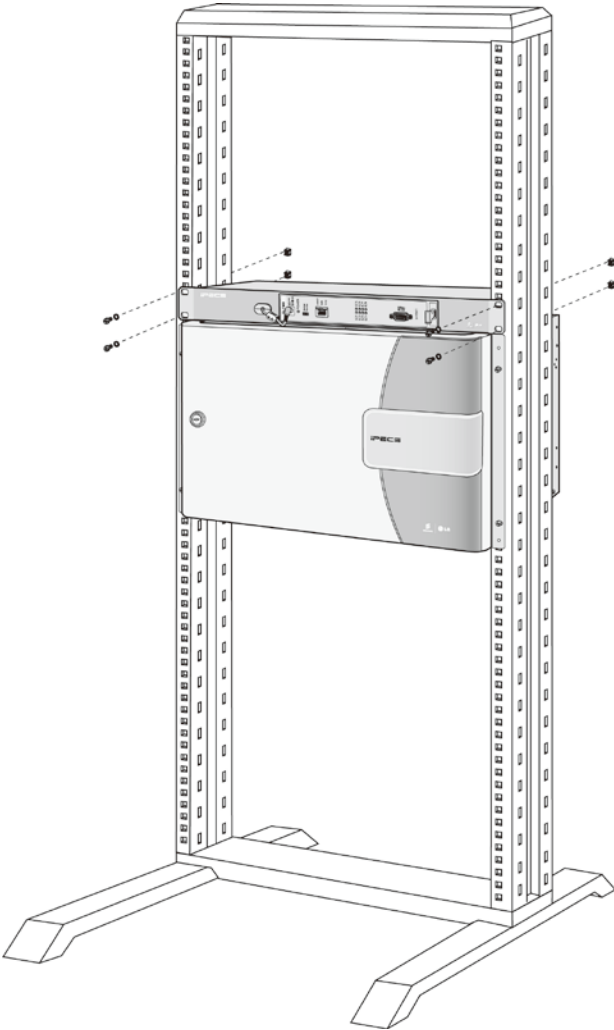

Figure 5.6-3 1U-RMB Rack-mount Installation
3. Install the 1U-RMB in a standard 19" rack securely with four (4) appropriate machine screws, nuts and lock-washers. Refer to Figure 5.6-3.